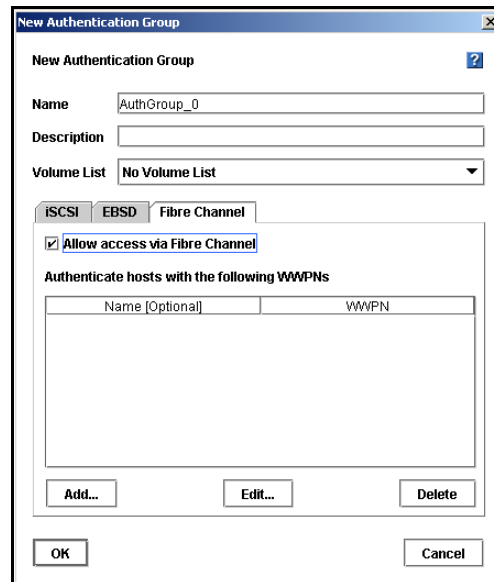

Figure 201. Configuring Fibre Channel for New Authentication Group
1. On the Fibre Channel tab, shown in Figure 201, select the check box to allow access via Fibre Channel.